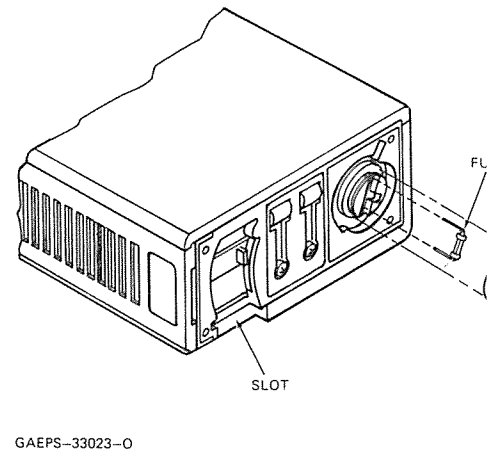

Figure 8. Battery Removal/Fu
Step 4. Rotate the battery about 180 degrees, until the cam lock is clear, and remove the battery from the *DVP* code inserter. (See Figure 8.)